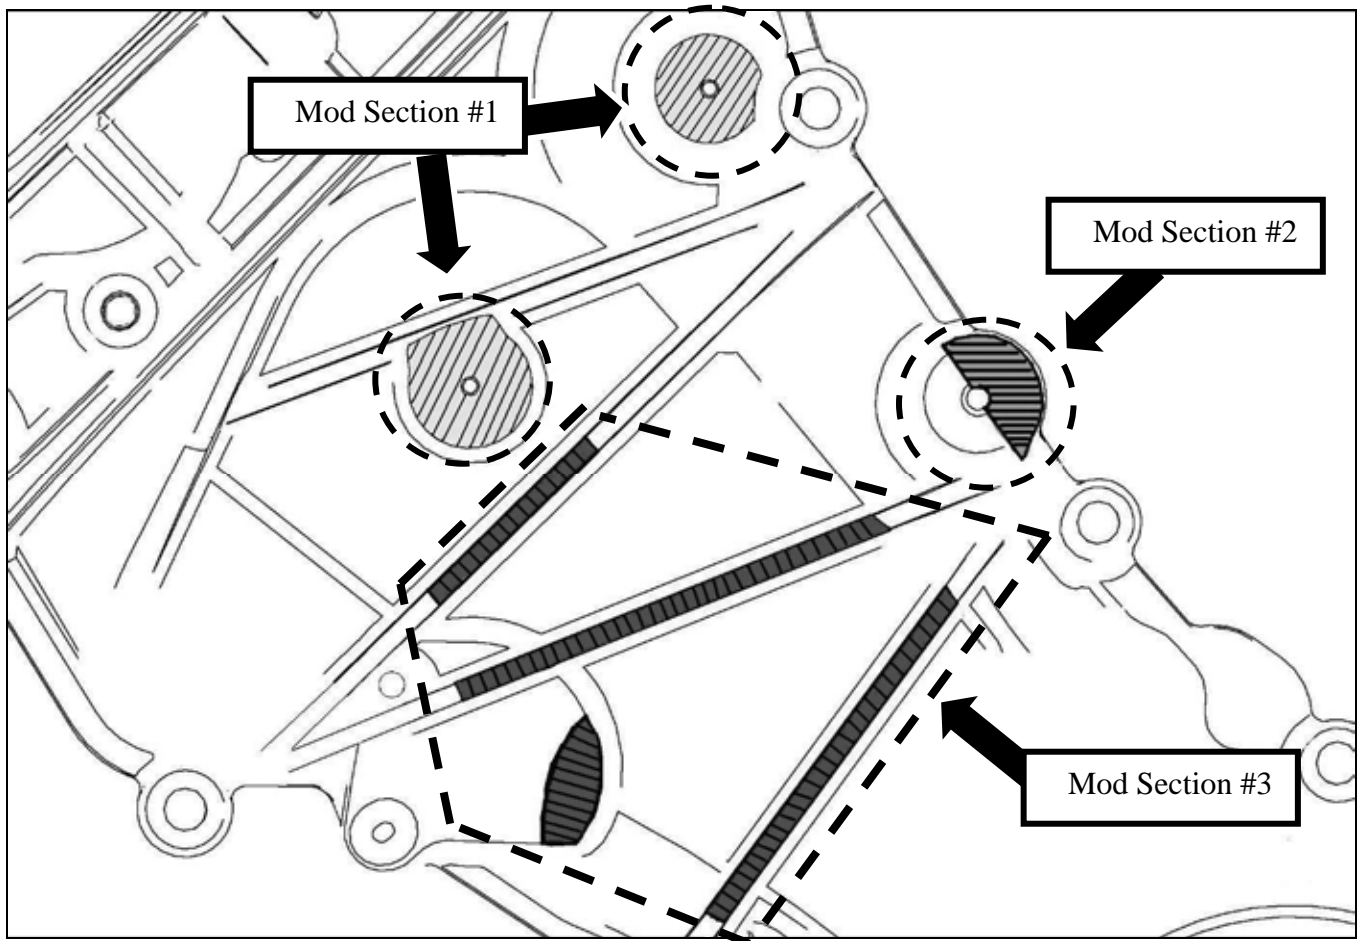
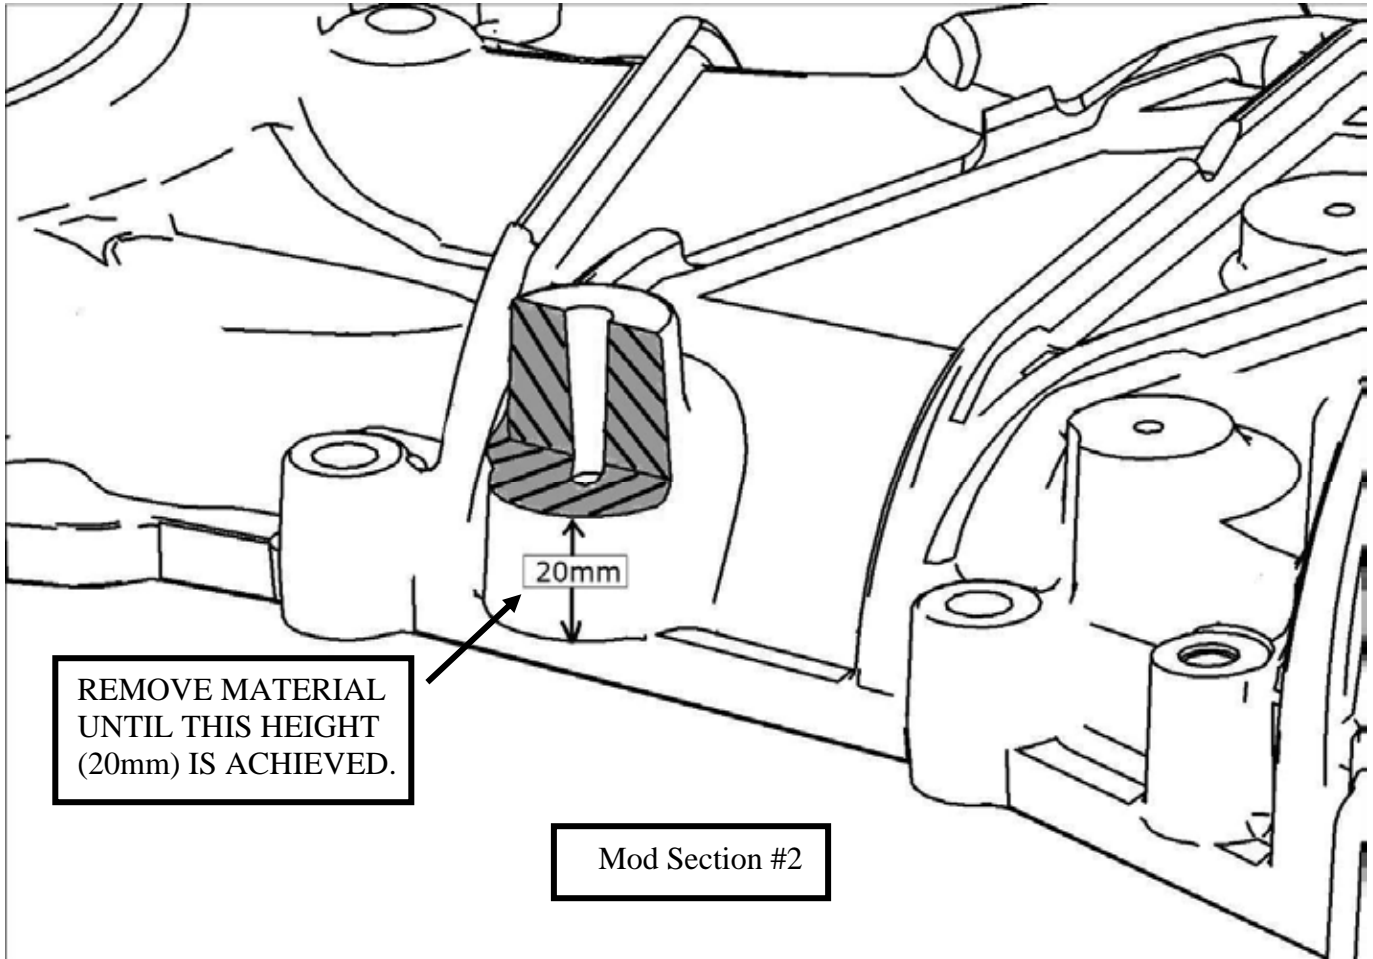
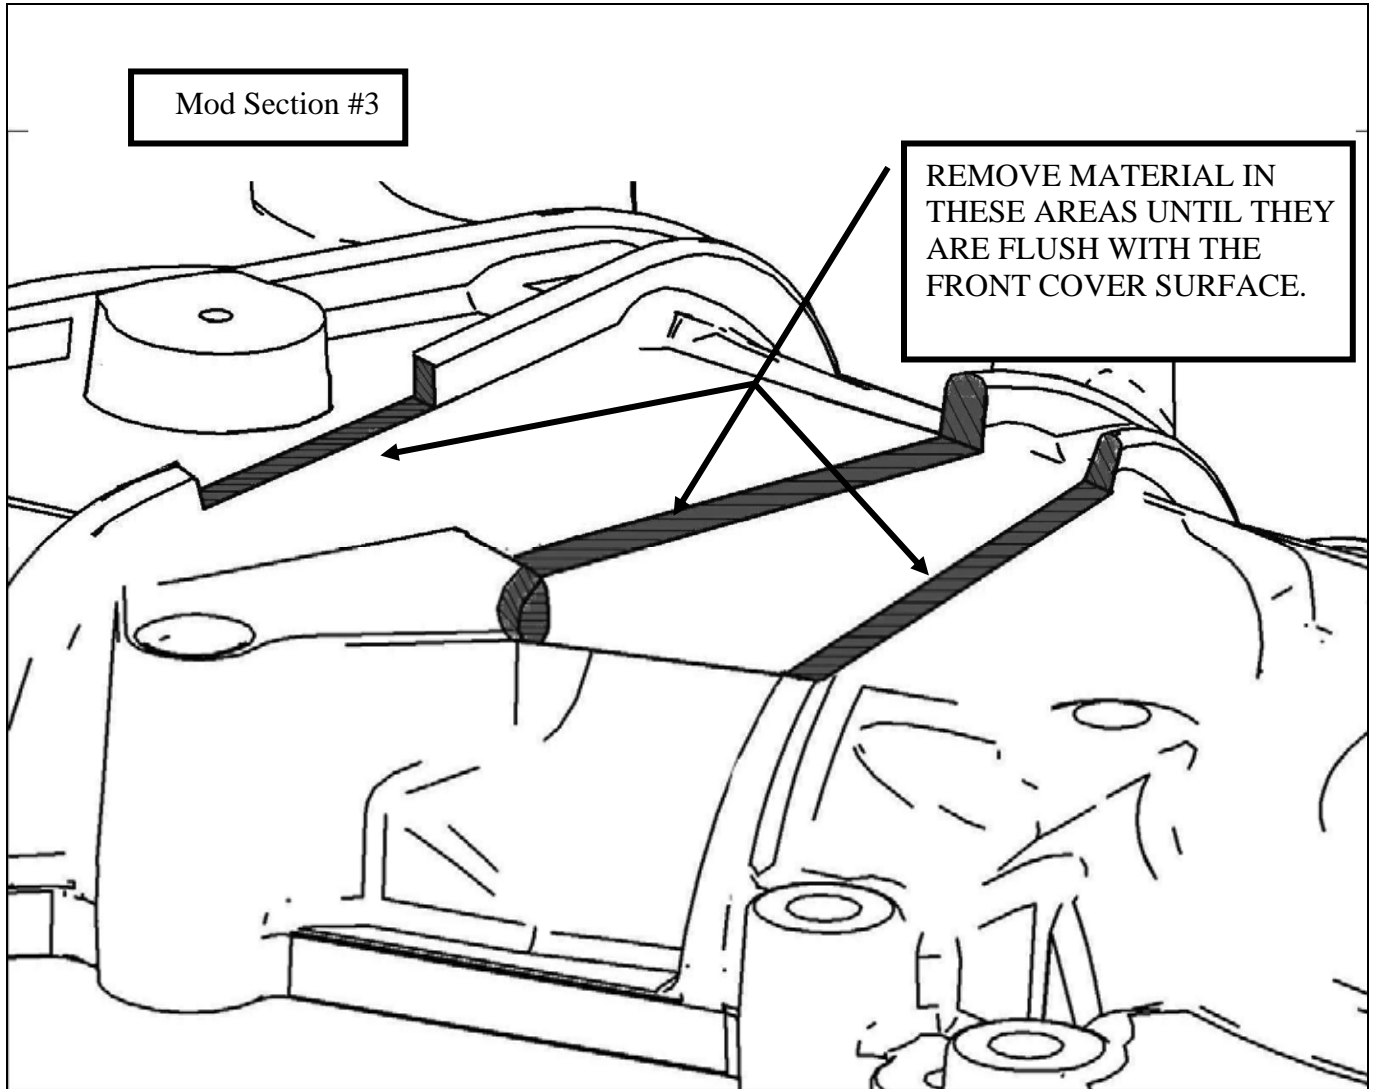

Figure 1
Figure 3
Figure 4
1. Using a grinder or cut off wheel, modify the front cover in the areas shown. Two bosses, labeled Mod Section #1 below, need to be reduced in height such that they are flush, or lower, than the height of the nearby rib structure (see Figures 1 and 2). The boss labeled "Mod Section #2" needs to be modified as shown in Figure 3. The remaining areas labeled "Mod Section #3" are portions of the rib structure which need to be removed completely (cut flush to the surface of the front cover). Refer to figure 4. Be careful not to remove too much material in these areas as permanent damage to the front cover could occur.